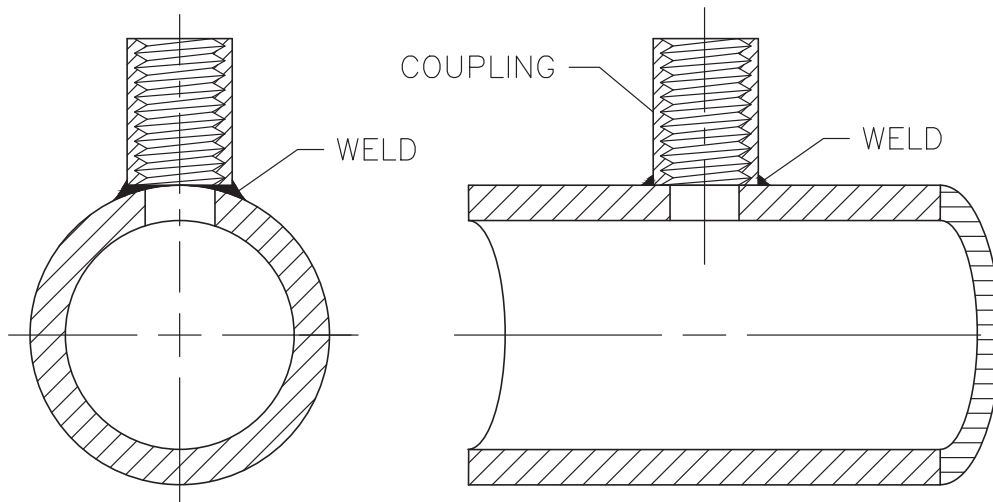

FIGURE 3.37 Welding a coupling onto a pipe header.
1. The coupling rests on the external surface of the pipe header and is welded from the outside. See Figure 3.37.